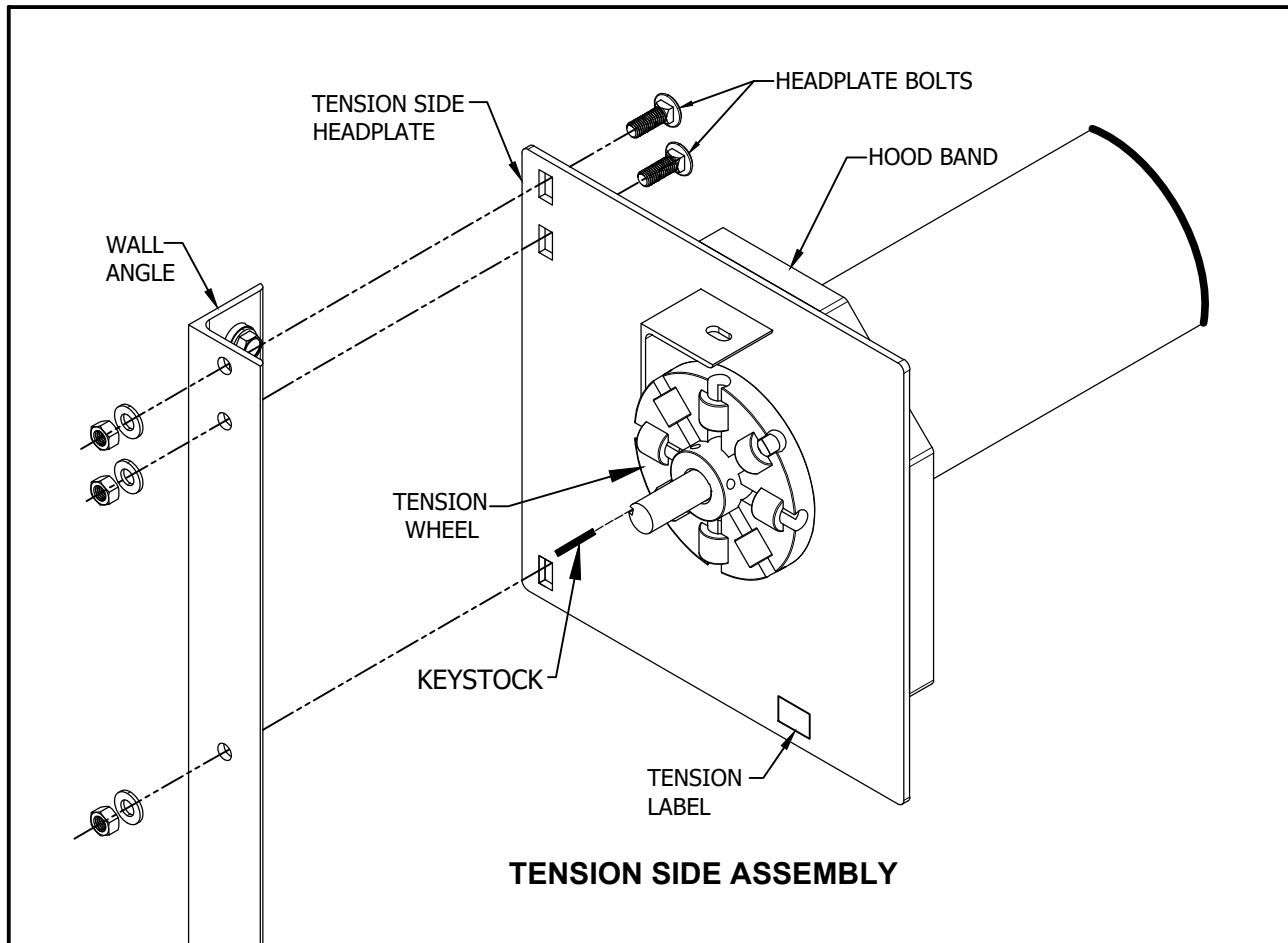

FIGURE 13
- a. Carefully secure barrel to hoisting equipment and raise into position at top of wall angles. Attach headplate brackets to the **INSIDE** of wall angles as shown in Figure 13.